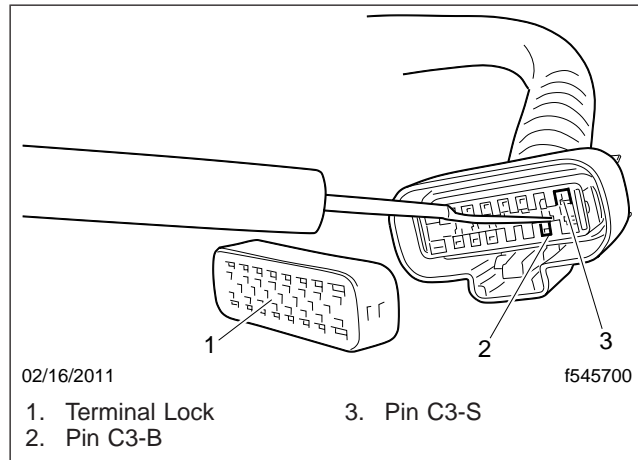

Fig. 1, Removing J1587/1708 Wires from Connector C3
3. Remove the J1587/1708 wires from connector C3. See Fig. 1.